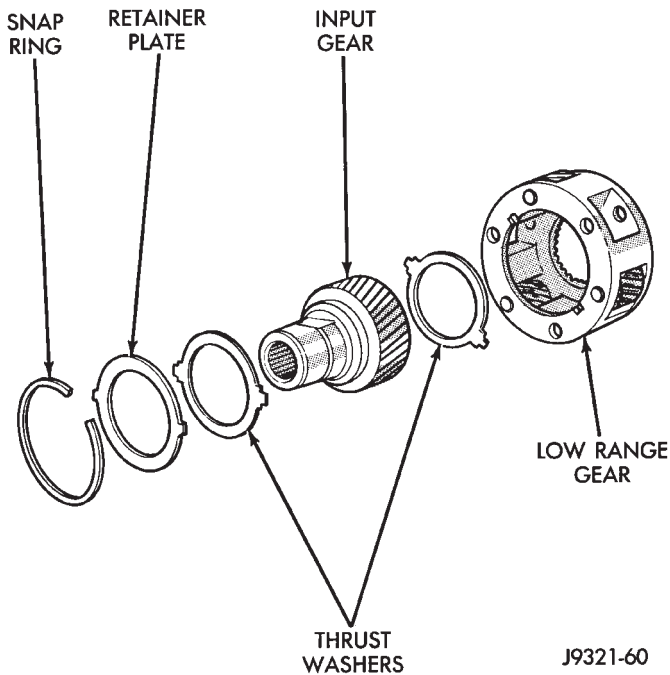

Fig. 52 Input/Low Range Gear Components
(1) Lubricate gears and thrust washers (Fig. 52) with recommended transmission fluid.
(2) Install first thrust washer in low range gear (Fig. 52). Be sure washer tabs are properly aligned in gear notches.